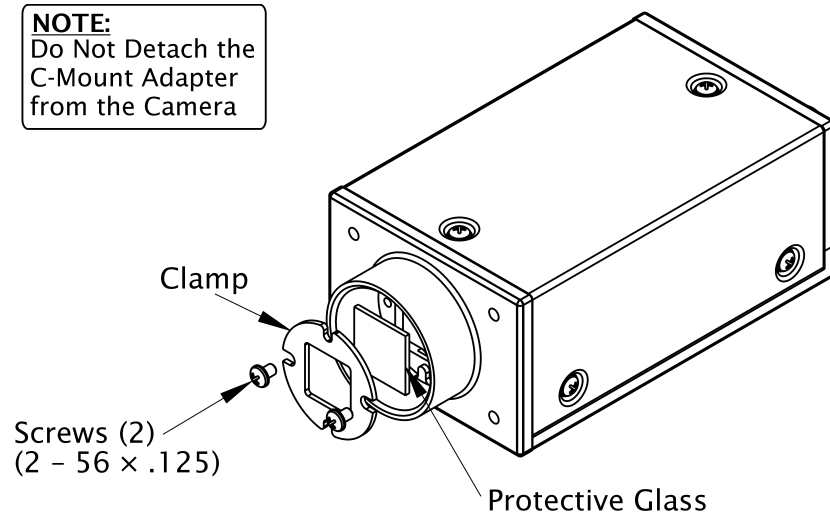

Figure 2.13 Camera C-Mount, Exploded View (Standard Configuration shown)
Each Camera is fitted with a piece of BK7 glass to protect the sensor. The glass is held in place by the Camera's C-mount assembly (Figure 2.13, on page 19) and can be removed if required. (The assembly is identical for the C-mount of the Right Angle configuration.)
2. Remove the screws holding the clamp in place (see Figure 2.13, on page 19).